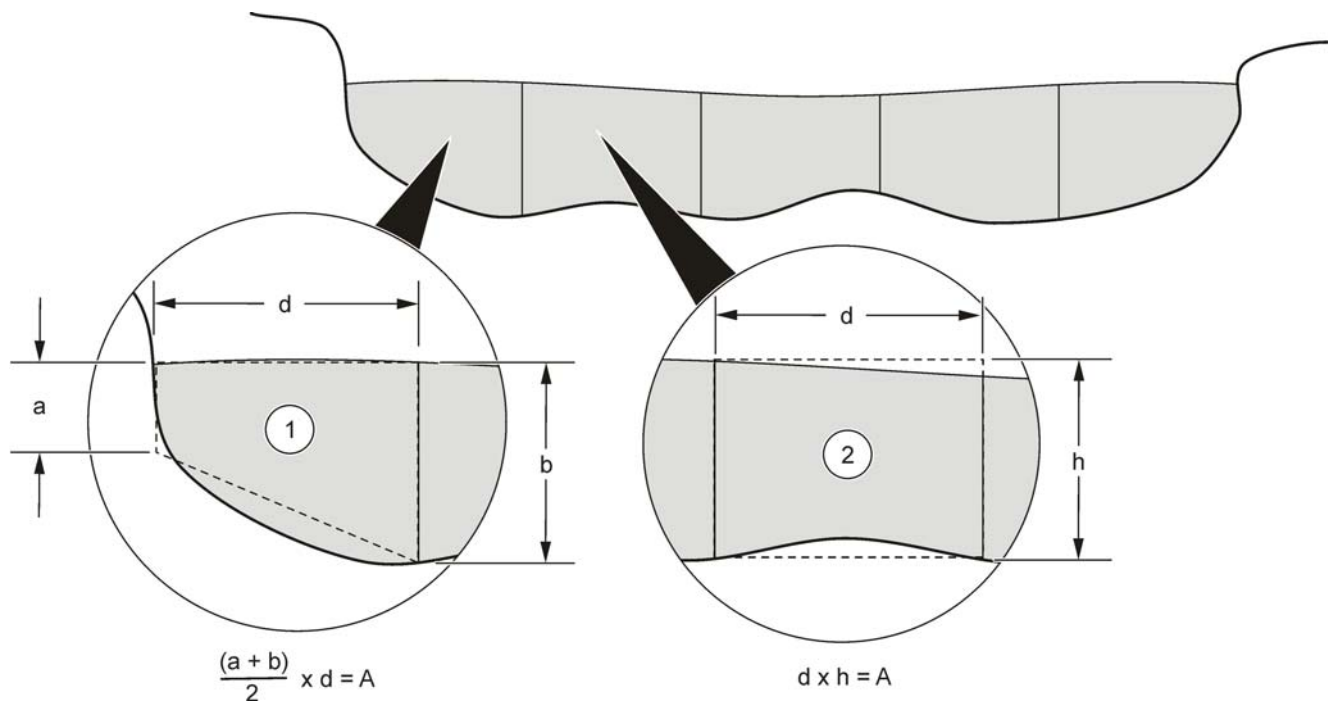

Figure 17 Segment area calculations
- e. Calculate the cross-sectional area of each segment. Refer to Figure 17 on page 34.